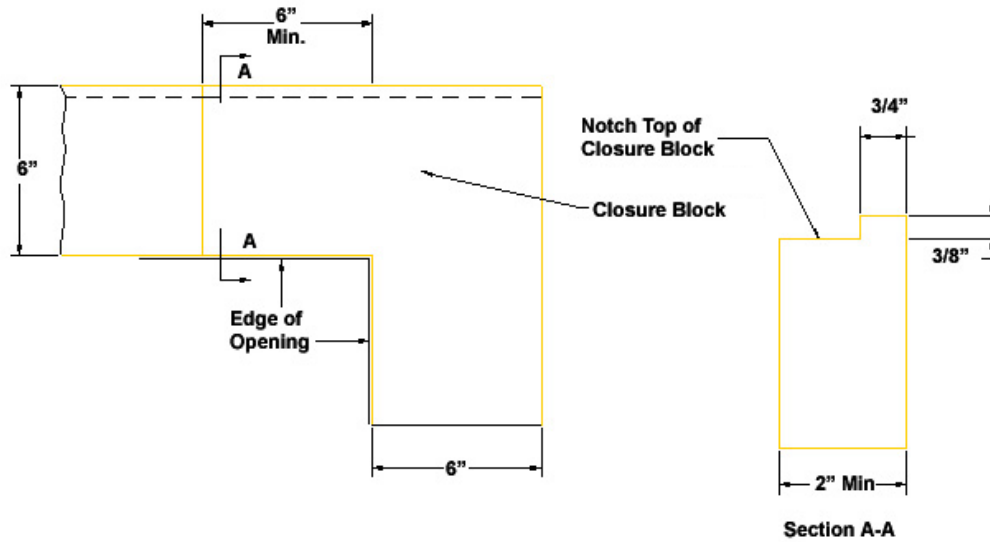

Figure 24
- h. Offset the joints of the Closure Blocks a minimum of 6 in (152 mm) from the corner of the opening by using an L-shaped closure block at each corner as shown in Figure 24.